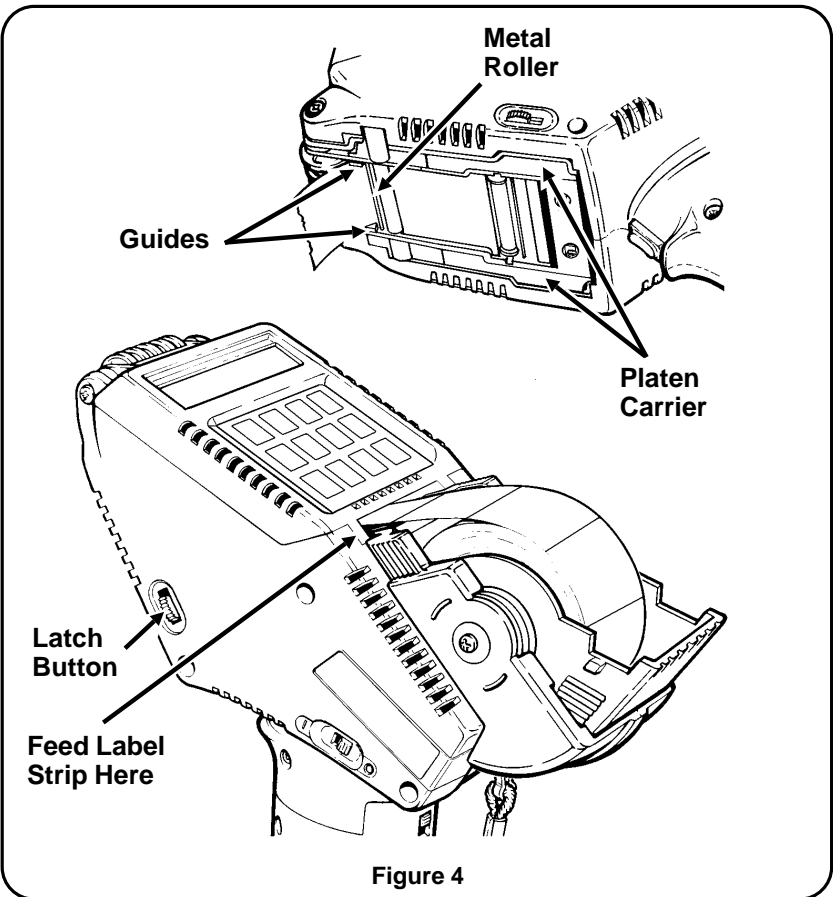

Figure 4
4. Hold the printer upright. In one quick release action, slide both latch buttons, one on each side of the printer, to the rear (Figure 4). The platen carrier will **partially** open.